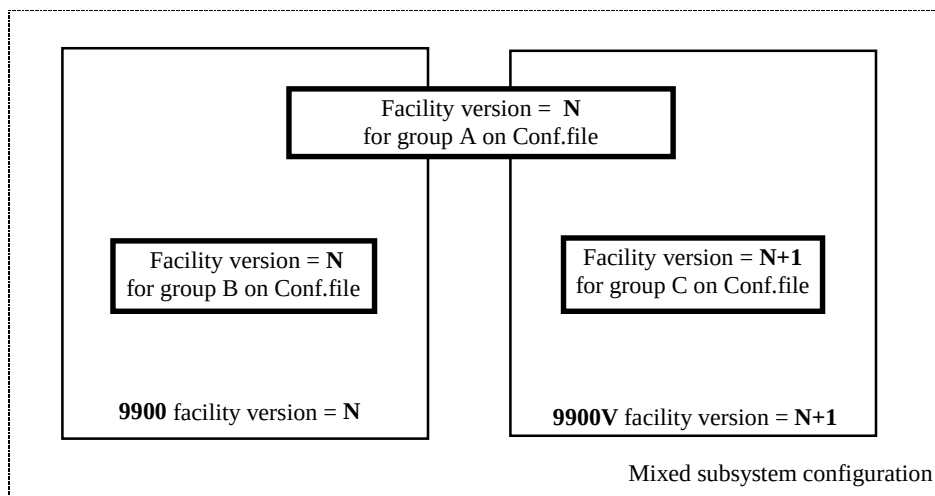

Figure 4.71 Definition of the Group Version
- In a mixed subsystem configuration, if the facility version of each subsystem (e.g., USP/NSC and 9900V) is different on a group, then CCI will slice to a minimum version to make a unification version for each group (see Figure 4.71).